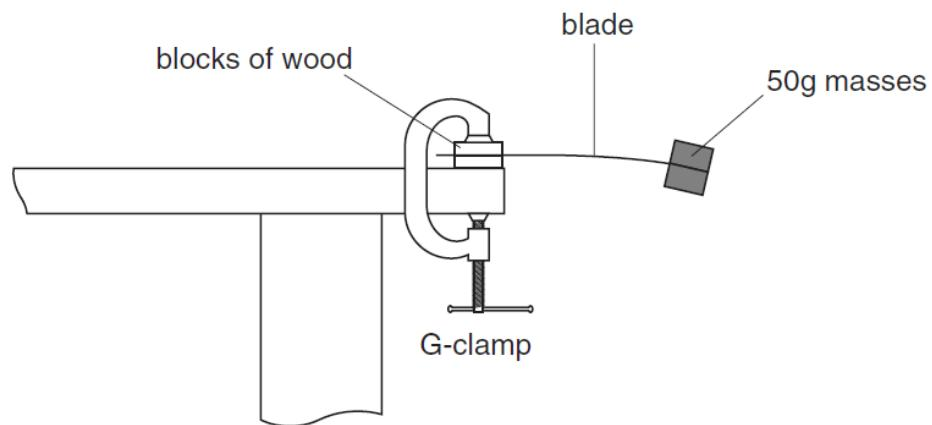

Fig. 1.1
- (a) Use the G-clamp and the small blocks of wood to clamp the steel blade to the bench as shown in Fig. 1.1. The blade has two small 50g masses attached to one end. You should not disturb the position of these masses during the course of the experiment.